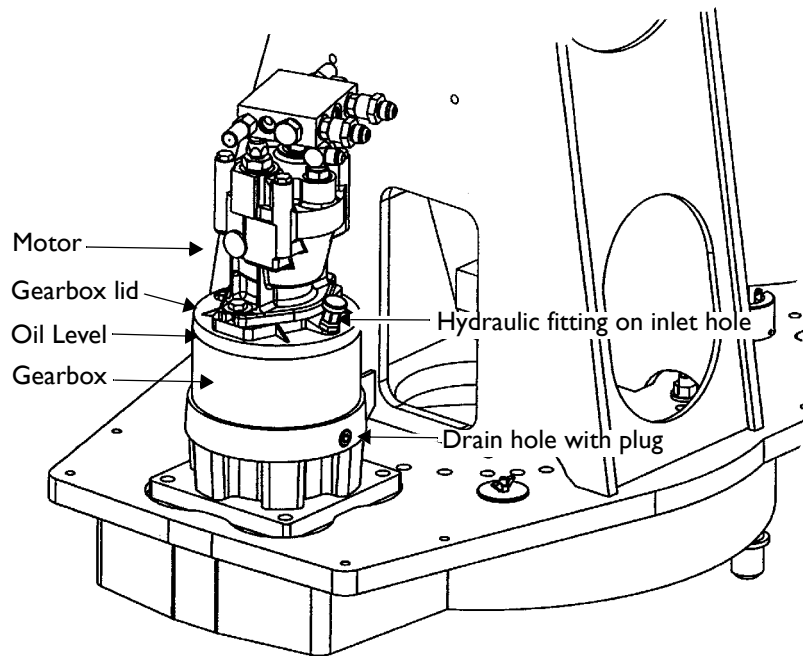

Figure 31
1. Hold an empty container (60 oz./1.7 litres) under the drain hole of the gear box (see *Figure 31*, below)
5. Unscrew the hydraulic fitting on the top of the gearbox (see *Figure 31*, above).
6. Fill the gearbox with new oil to the bottom of the gearbox lid as shown in *Figure 31*, above. This completely covers the sun gear with oil (you must look in the hole where you are pouring the oil to see the level of the oil).